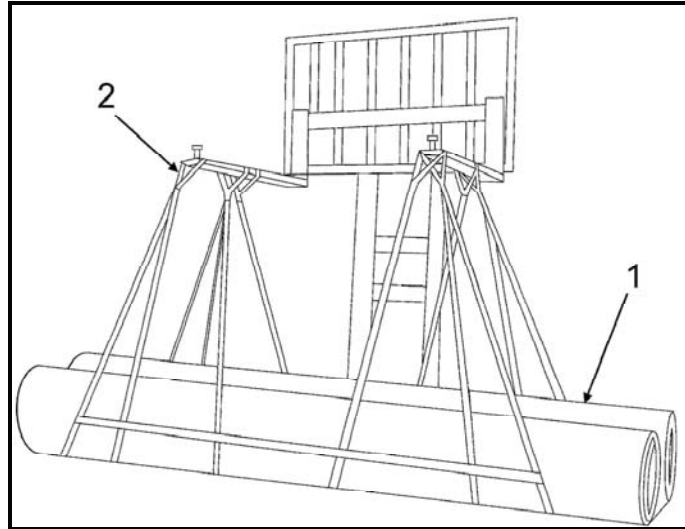

Figure 22. Lifting the berm liner.
11. Locate the lifting straps (Figure 22, Item 2) around berm liner (Figure 22, Item 1). Carefully insert fork lift forks (10,000-lb. capacity) through the loops of lifting straps.